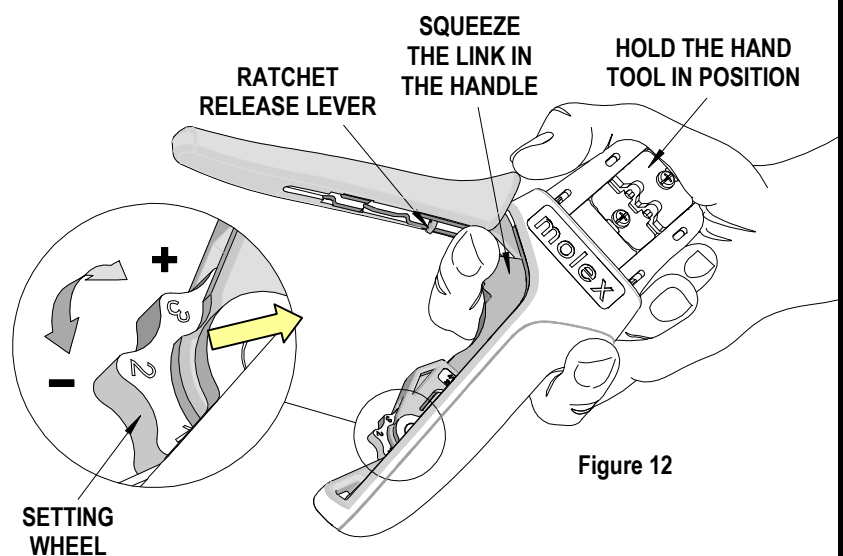

Figure 12
### How to Adjust Tool Preload (See Figure 12)
1. Hold the hand tool in the palm of your hand as shown in Figure 12. Using the index finger squeeze the link towards the top of the hand tool frame. This will release the preload adjustment wheel.
2. Rotate the setting wheel counter-clockwise (CCW) to increase handle force. The numbers will display higher. To decrease handle force rotate the setting wheel clockwise (CW).